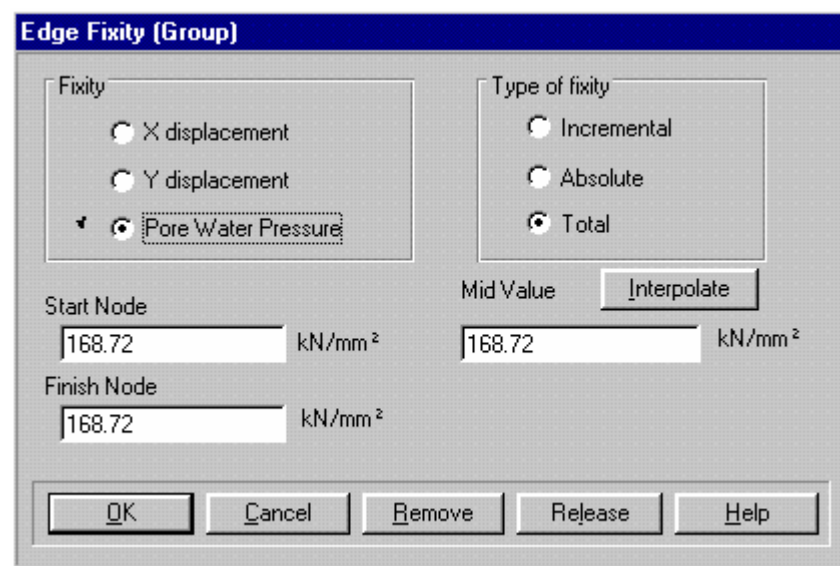

Figure 6-31: Setting Pore Water Pressures
- Step 8** The Edge Fixity dialogue box should now look like Figure 6-31. Click on **OK** to exit, once you have finished.